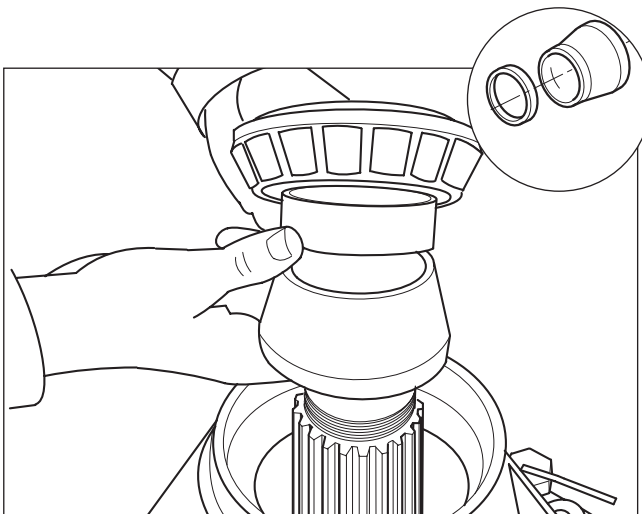

Fig. 2.23
23. Once bearing is removed, lift out spacers. (Fig. 2.23)